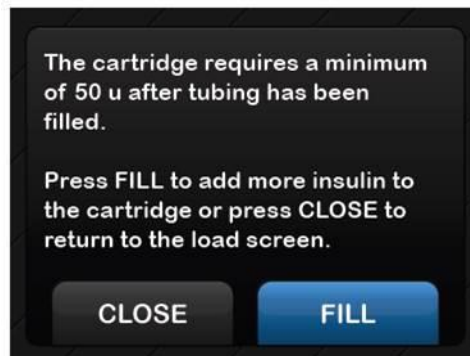

Figure 1
- Information related to minimum fill volume was moved from the “Notes” section of the instructions to be displayed on the pump graphical user interface (GUI). The referenced minimum volume was changed from 0.45 mL to .50 mL to ensure adequate fill volume is confirmed by the pump after tubing has been filled. This is a pump function not controlled by the user so the information related to this instruction is more appropriately shown on the pump display. These modifications do not affect the device’s intended use or indications for use. In accordance with Tandem’s procedures, these minor modifications were verified to confirm conformance with original design specifications. As was verified per the current software requirements specification, the information is displayed on the pump GUI as shown in **Figure 1** below: